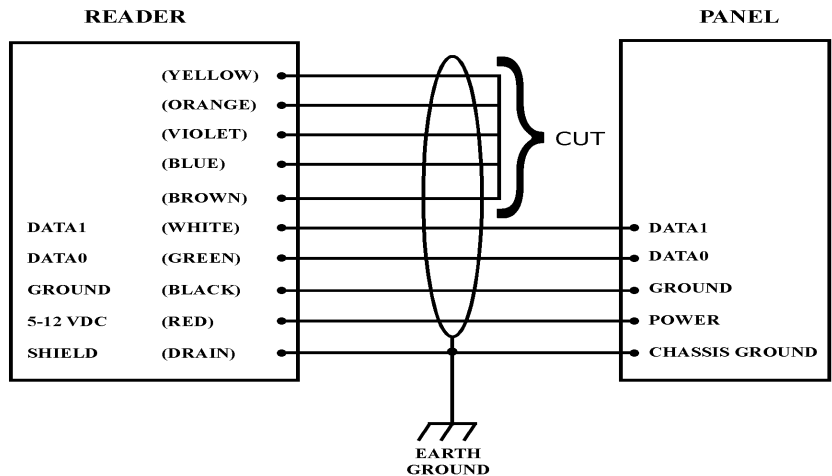

FIGURE 2. Wiring Diagram (Wiegand)
3. Connect the reader's ground, Data-0, Data-1, and power (see Figure 2). **Do not connect orange, yellow, blue, violet and brown wires to anything. Tape or cap the unused wires separately.**
- 4 conductors (not twisted-pair), stranded, 22 gauge, color-coded insulation, overall 100% shielded (Fig.2).